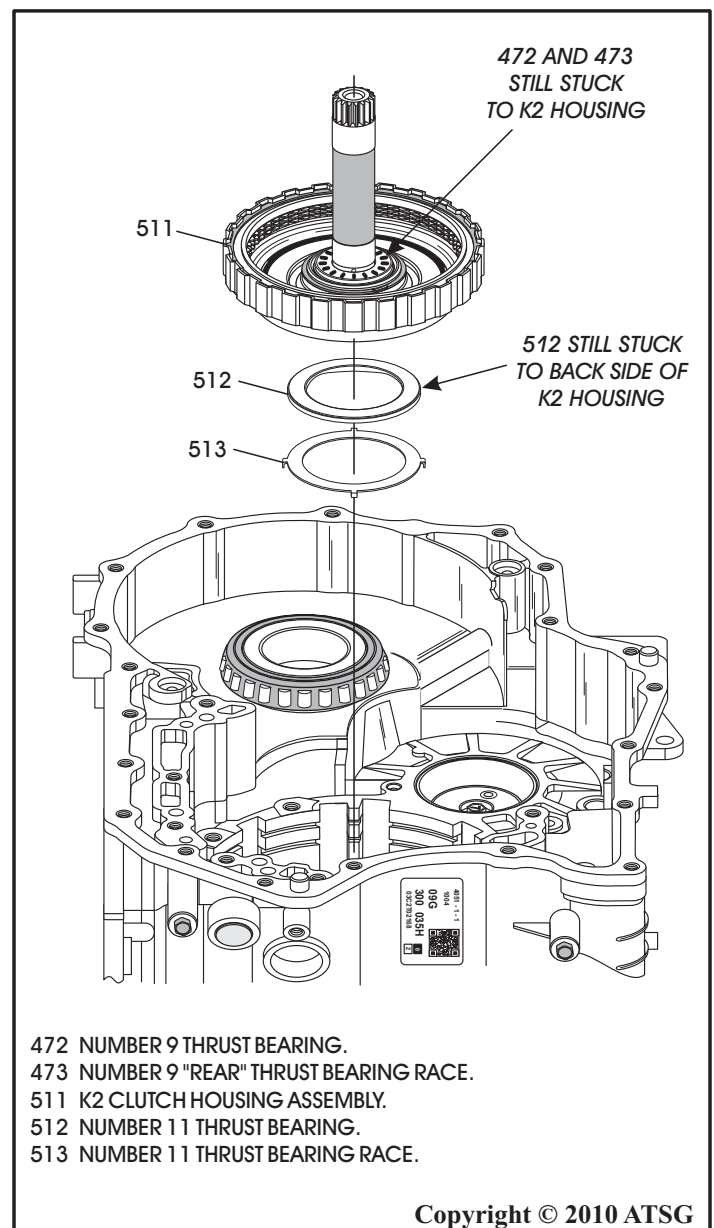

Figure 167
1. Position transaxle case as shown in Figure 167 and ensure number 11 thrust bearing race is still installed in case.
2. Ensure number 9 thrust bearing and race are still in place and number 11 thrust bearing is still in place on the K2 clutch housing and install the completed K2 clutch housing into the transaxle case, as shown in Figure 167.